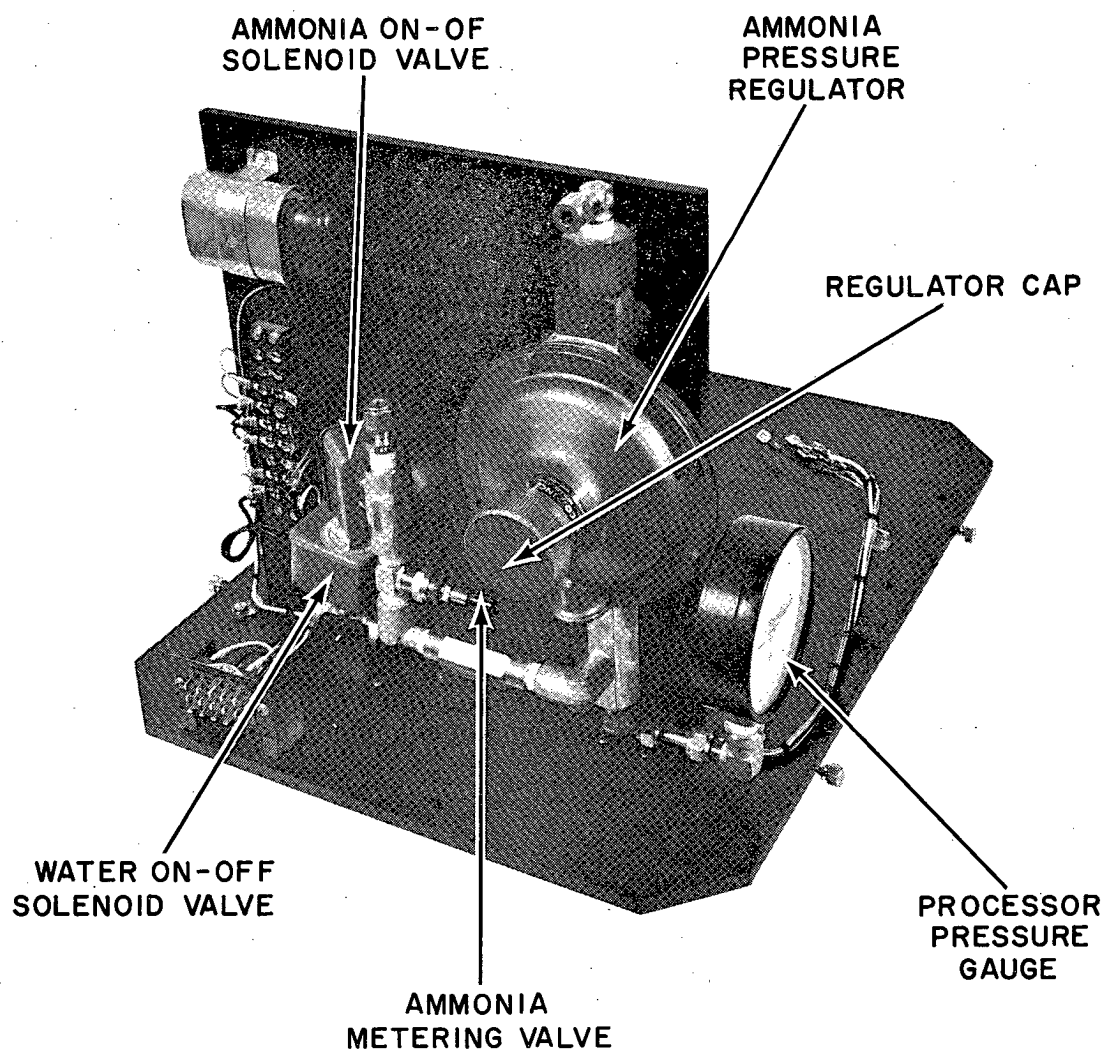

Figure 4.5 PROCESSOR SHELF (PROCESSOR AND COVER REMOVED)
- B. Water ON-OFF Solenoid Valve (Figure 4.5) - Feeds water supply from main reservoir to secondary reservoir located within processor. Solenoid is actuated by float valve located in secondary reservoir.